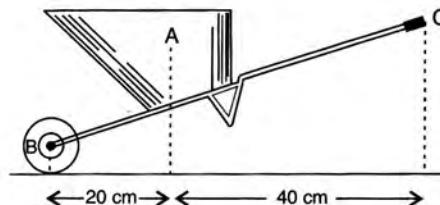

**Fig. 3.17**
9. Fig. 3.17 below shows a lever in use.